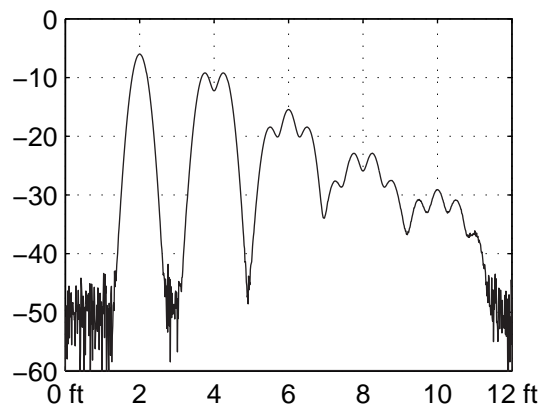

Figure 4-15: Block diagram of the setup for network #1
2. Assuming figure 4-15 displayed the measurement for network #1, what is the most likely cause for this unexpected result? Please be as specific as possible.